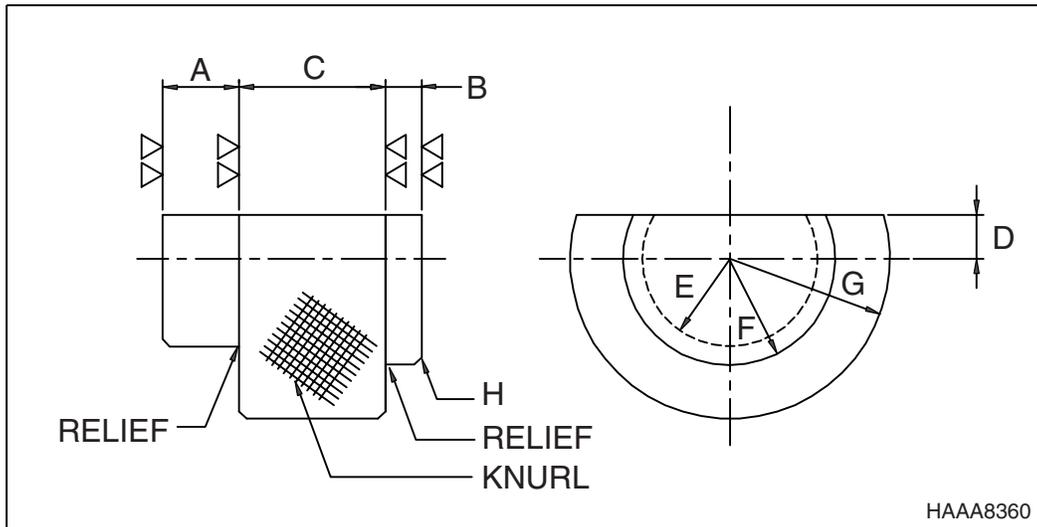

Figure 6
**NOTE:** *In manufacturing drawings (Figure 5 and Figure 6), dimension "A" and "B" equal the "Measurement H." The two tools shown are designed to be used on various models of equipment. Only one end of the tool is used for a specific model of equipment.*
Dimensional Details for Figure 6